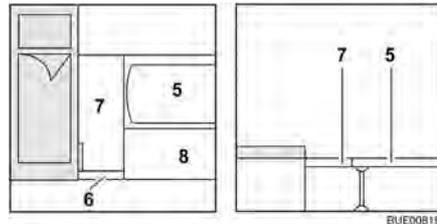

Fig. 93 During conversion
- Secure and unfold the additional board (Fig. 93,6) with the rail hinge on the bench seat (Fig. 93,8).
- Place additional board (Fig. 93,7) on top.